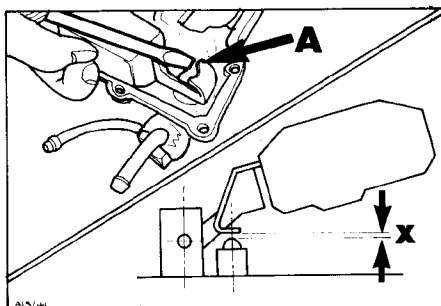

Fig. 6 Float lowered position
- Turn cover upside down. Lift float and measure clearance 'X' between needle valve and float lever (Fig. 6).